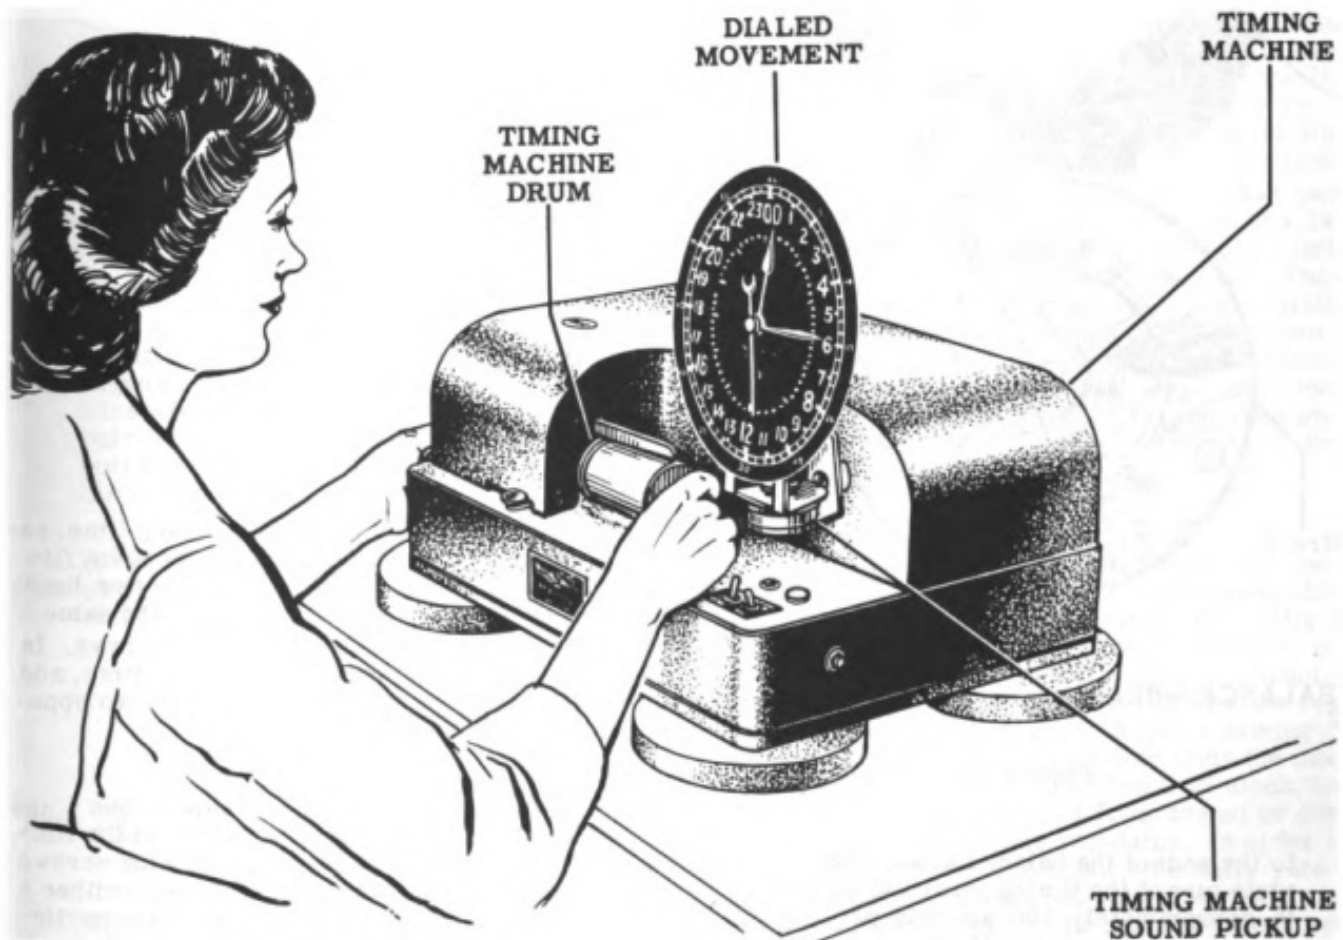

Figure 86
The timing machine shown in Fig. 86 is one commonly used for the purpose, although any of the many similar commercially available types may be employed. Timing machines of this kind have a calibrated chart paper which is wrapped around a drum. As a drum turns, the recording mechanism produces a dot on the chart paper each time the clock "ticks." The completed chart consists of a sequence of these dots across the chart.
2. Clamp the clock movement on to the timing machine as shown in Fig. 86. The movement should always be timed and tested in